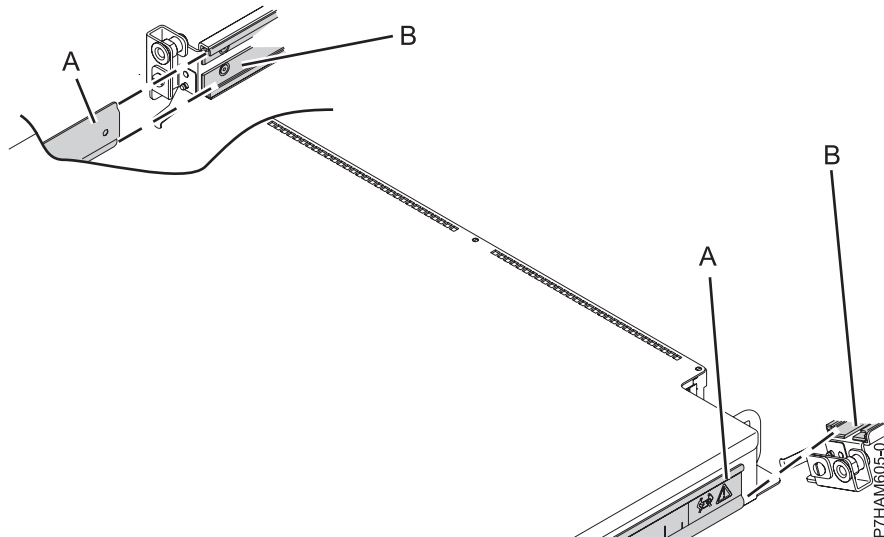

Figure 13. Reviewing the enclosure attachment to the rails
- a. Before attempting to mount the PCIe storage enclosure to the rails, review Figure 13 to observe how the chassis bracket guide (A) on the side of the enclosure fits and slides into the rail sheath (B) that matches its shape.
**Note:** In Figure 13, the right rail (B) is portrayed at an angle to show the location of the rail sheath. The actual rail is mounted in an upright position in the rack.